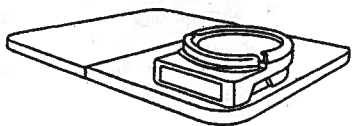

Fig 3. Mounting the HC100.
2. Secure the HC100 onto the tray by fastening the two screws supplied with the Mounting Tray, as shown in Fig 3.